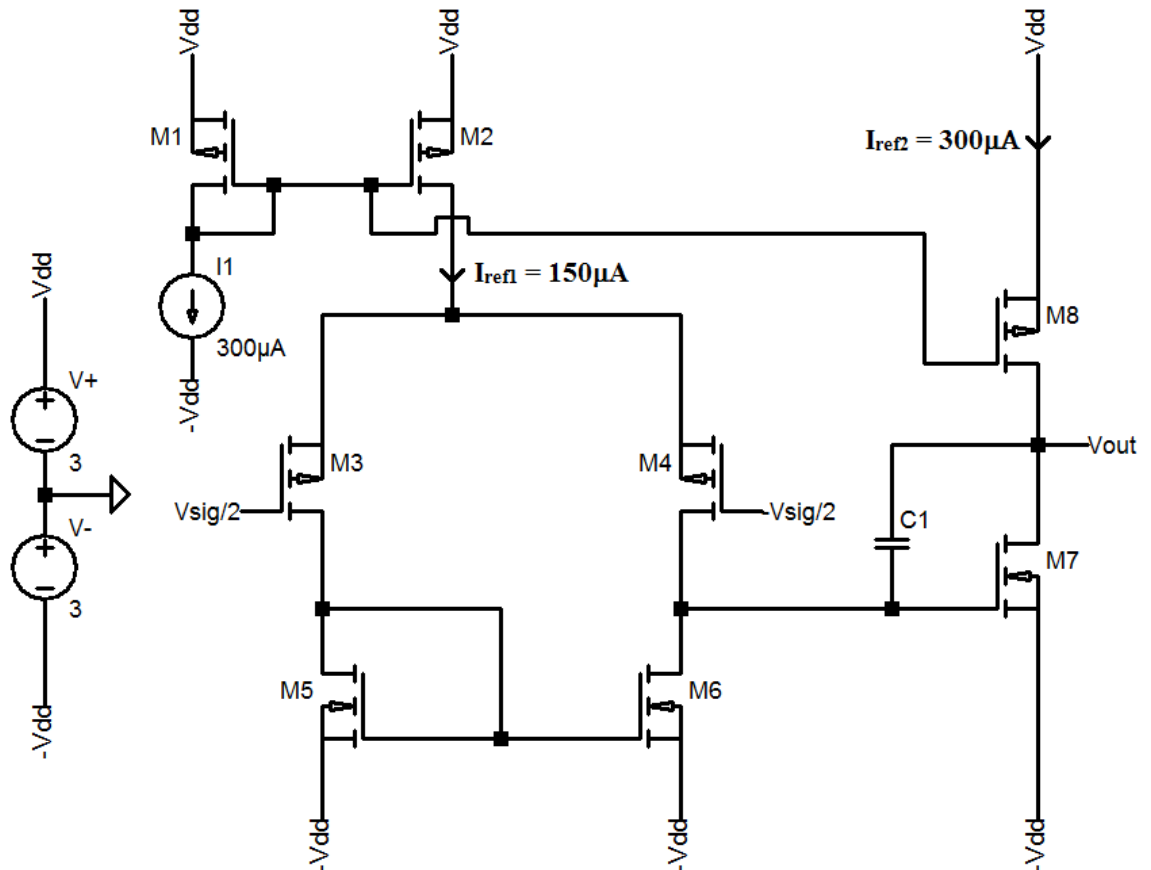

Figure 4: a two stage operational amplifier.
A4 **Figure 4** shows a SPICE model of a two stage operational amplifier. The FETs in **Figure 4** have the following parameters:
- i) The amplifier is to be designed with a gain of 2500. Calculate the required overdrive voltage and the output resistances of FETs **M3** to **M8**. (3)
- ii) Calculate the transconductances of the differential and the common source stages of the amplifier, and hence the gain of each stage. (3)
- b. Derive the required channel widths for each of the FETs. (7)
- c. Where in the circuit of **Figure 4** can a 'virtual ground' be assumed in the small signal analysis of the amplifier? (Answer in the form: gate, source or drain of FET MX.) What is the Q-point voltage at this point? (3)
- d. When operating in saturation, the parasitic capacitances of FET **M7** are $C_{GD}=0.02\text{pF}$ and $C_{GS}=0.05\text{pF}$. Use the Miller transform to derive a value for the coupling capacitor **C1** that gives an amplifier upper cutoff frequency of $\sim 100\text{kHz}$. (4)